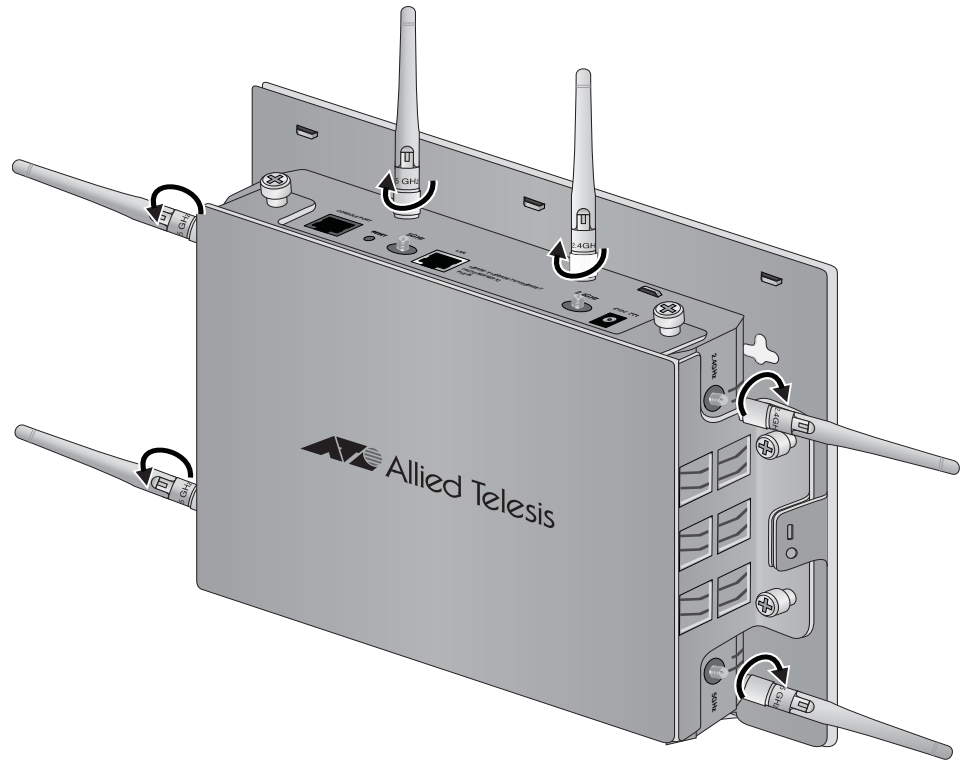

Figure 23. Installing the Antennas
6. Install the three 2.4 GHz and three 5 GHz antennas to the corresponding connectors on the sides of the unit. The connectors are labelled. Refer to Figure 23 on page 45.